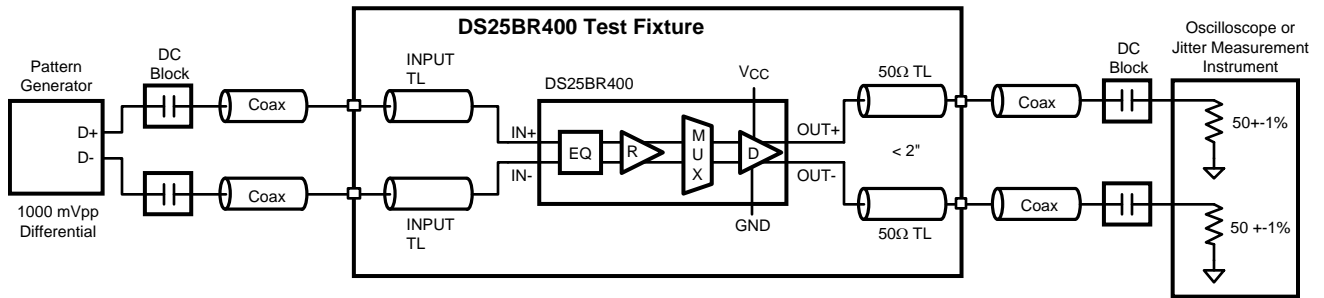

Figure 7. AC Test Circuit
(4) All CML Inputs and Outputs must be AC coupled for optimal jitter performance.
(6) Device output random jitter is a measurement of random jitter contributed by the device. It is derived by the equation  $\text{SQRT}[(R_{JOUT})^2 - (R_{JIN})^2]$ , where  $R_{JOUT}$  is the total random jitter measured at the output of the device in ps(rms),  $R_{JIN}$  is the random jitter of the pattern generator driving the device. Below 400 Mbps, system jitter and device jitter could not be separated. The 250 Mbps specification includes system random jitter. Please see Figure 7 for the AC test circuit.
(7) Device output deterministic jitter is a measurement of the deterministic jitter contribution from the device. It is derived by the equation  $(DJ_{OUT} - DJ_{IN})$ , where  $DJ_{OUT}$  is the total peak-to-peak deterministic jitter measured at the output of the device in ps(p-p).  $DJ_{IN}$  is the peak-to-peak deterministic jitter at the input of the test board. Please see Figure 7 for the AC test circuit.
(8) This parameter is guaranteed by design and/or characterization and is not tested in production.